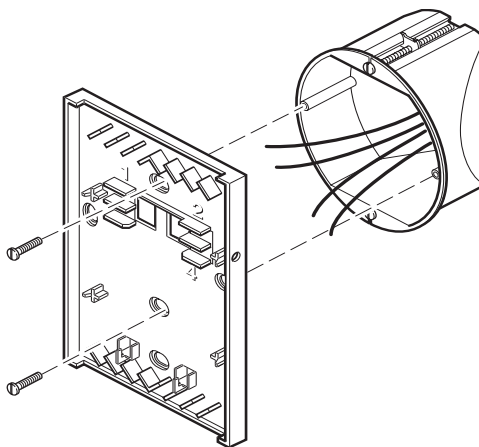

Figure-5 1/4 DIN Electrical Box Mounting.
**Caution:** Failure to use vertical mounting holes as shown in Figure-5 may cause a short of the LONWORKS network.
4. Using two appropriate screws (not provided), mount base plate to electrical box using vertical mounting holes indicated in Figure-5.